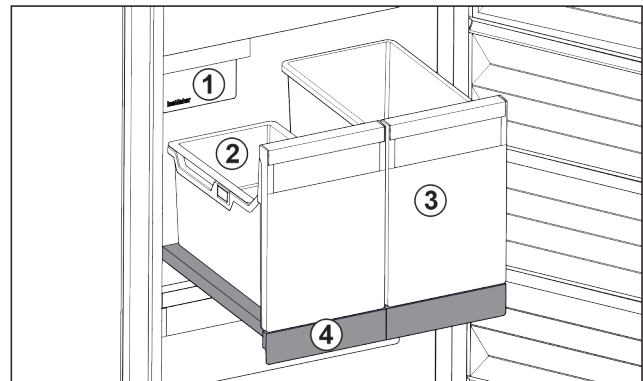

Fig. 92 Pull-out board with IceTower
- (1) IceMaker
- (2) Hang-on tray for ice cubes
- (3) Container for pizza or alcoholic beverages, for example
- (4) Pull-out board
On the pull-out board are two tall containers (IceTower). Ice cubes from the IceMaker are collected and stored in the container Fig. 92 (2). The container Fig. 92 (3) is suitable for storing tall foodstuffs or beverages such as pizzas or alcoholic drinks.